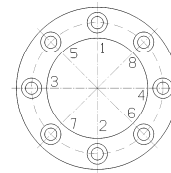

Figure 1
- 5 Tighten the screws in a crisscross sequence by using a calibrated torque wrench. Continue until you reach 50% of the torque value specified for the screws in the table (see Figure 1).